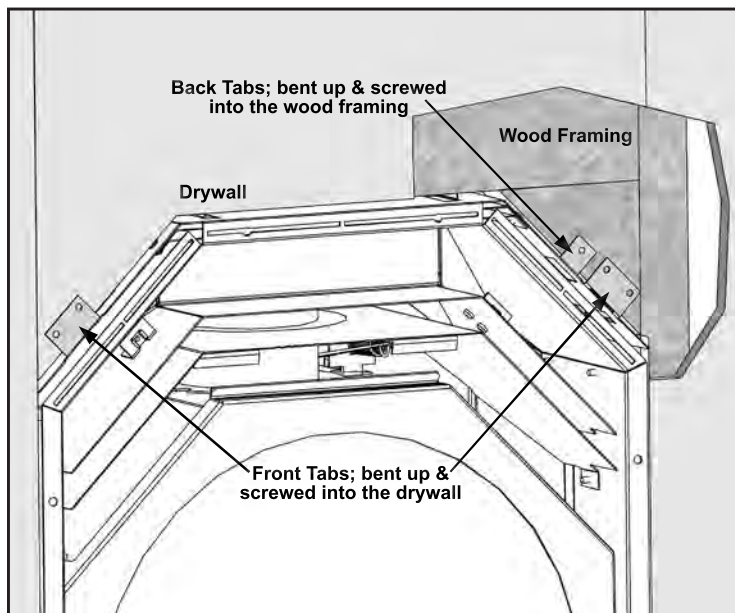
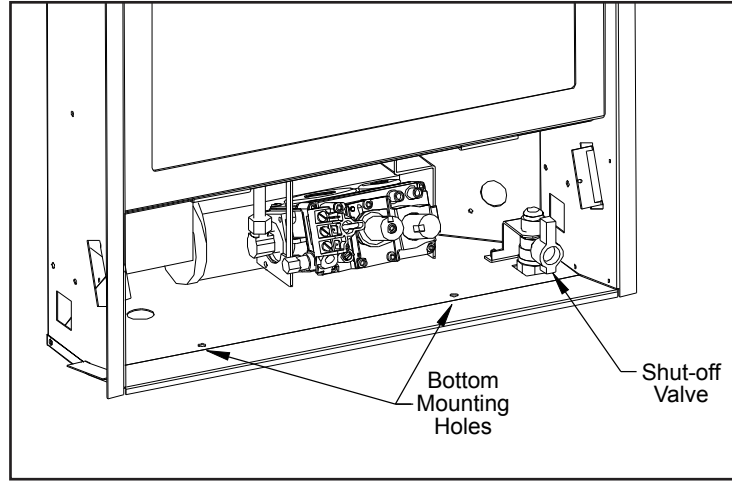

Figure 20. Top Mounting brackets.
Figure 21. Bottom Mounting Holes.6
The Haven can be secured to the framing and the flooring. At either side of the top there are two (2) brackets with holes for screws or nails (Figure 20); the back tabs are to mount to the wood framing and the front ones are to mount to the drywall. At the bottom there are two (2) mounting holes in the unit base below the firebox, which allows for screws or nails to mount to the floor (Figure 21).